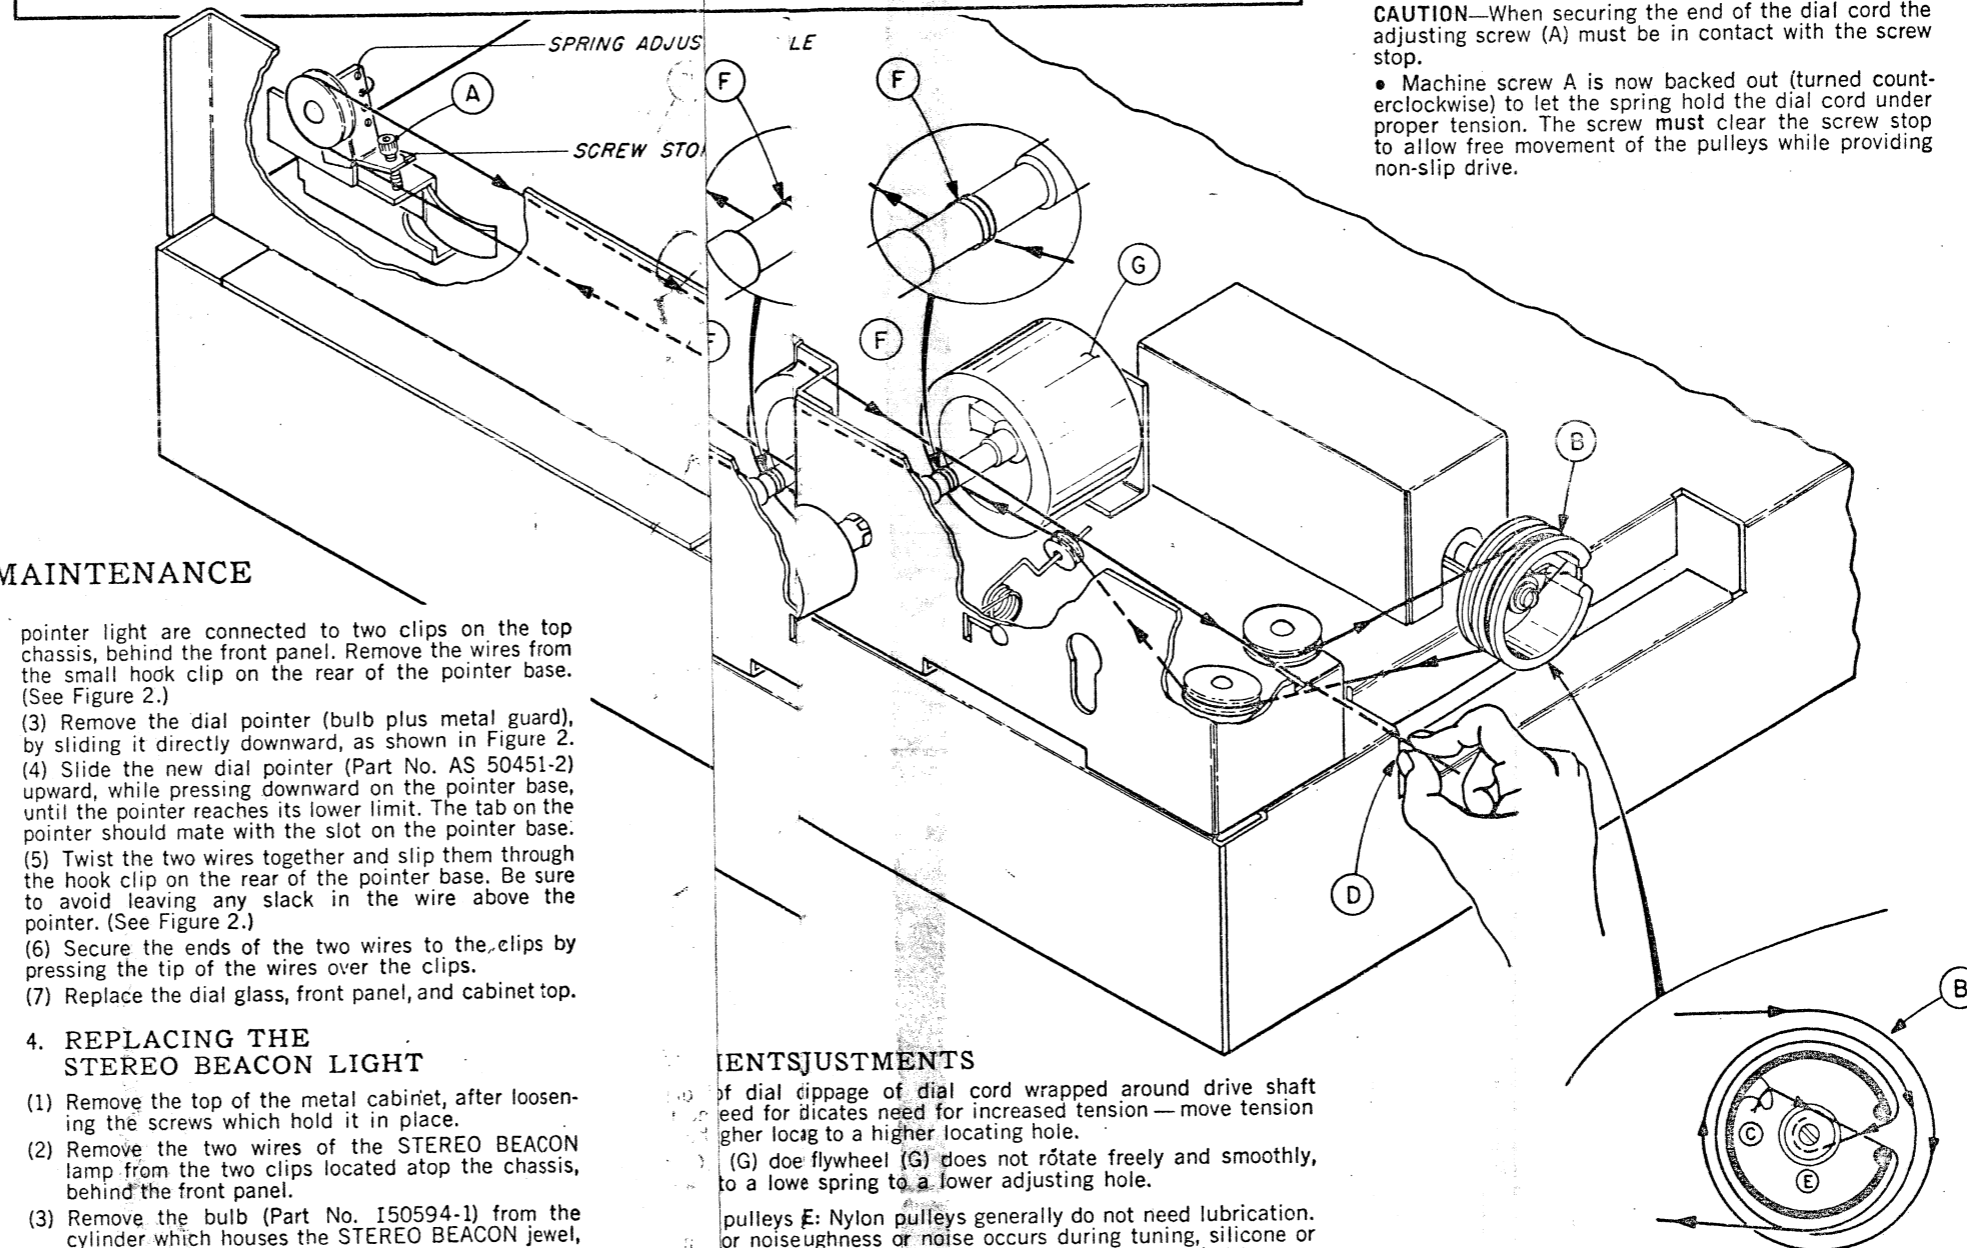

FIGURE 1.
- Tie dial cord to ear C (in capacitor-drive drum) as shown in Figure 1. Dial cord goes through slot in drum and is set in the inner groove.
- Wrap the end of the dial cord around the body of the machine screw (E) in the hub of the drive drum and tighten. The cord goes under the flat washer.